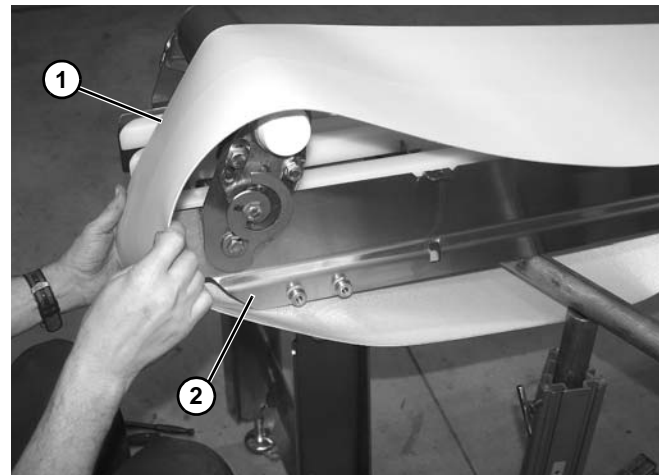

Figure 98
3. Install belt (**Figure 98, item 1**) on conveyor. Lift conveyor (**Figure 98, item 2**) slightly to avoid pinching belt on temporary support stands.